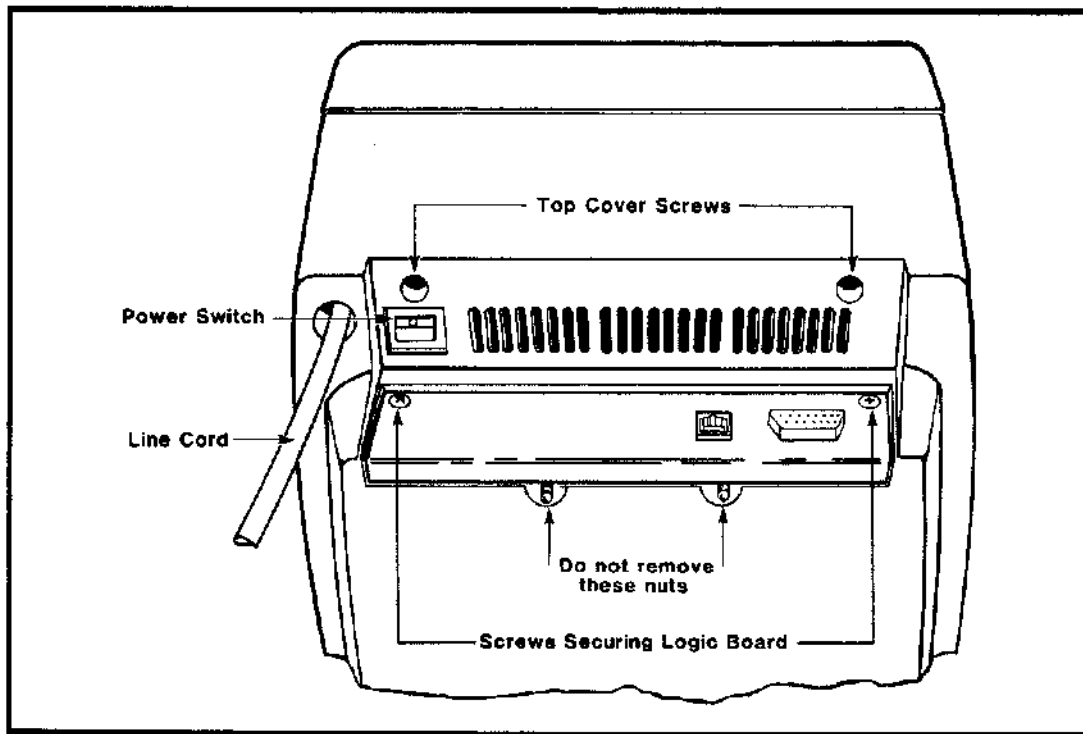

Figure 6-2: REMOVING THE C-5 TOP COVER SCREWS
1. Position the C-5 with its screen facing downwards on a clean soft cloth. Locate the two screw holes just above the rear connector plate. With a Phillips screwdriver, unscrew the two 6-32 x 3/8" screws securing the top cover (Figure 6-2).
4. Remove the two 6-32 x 3/8" screws holding the logic board and back panel to the rear of the C-5 (see Figure 6-2). The C-5 logic board can now be removed by sliding it toward you.